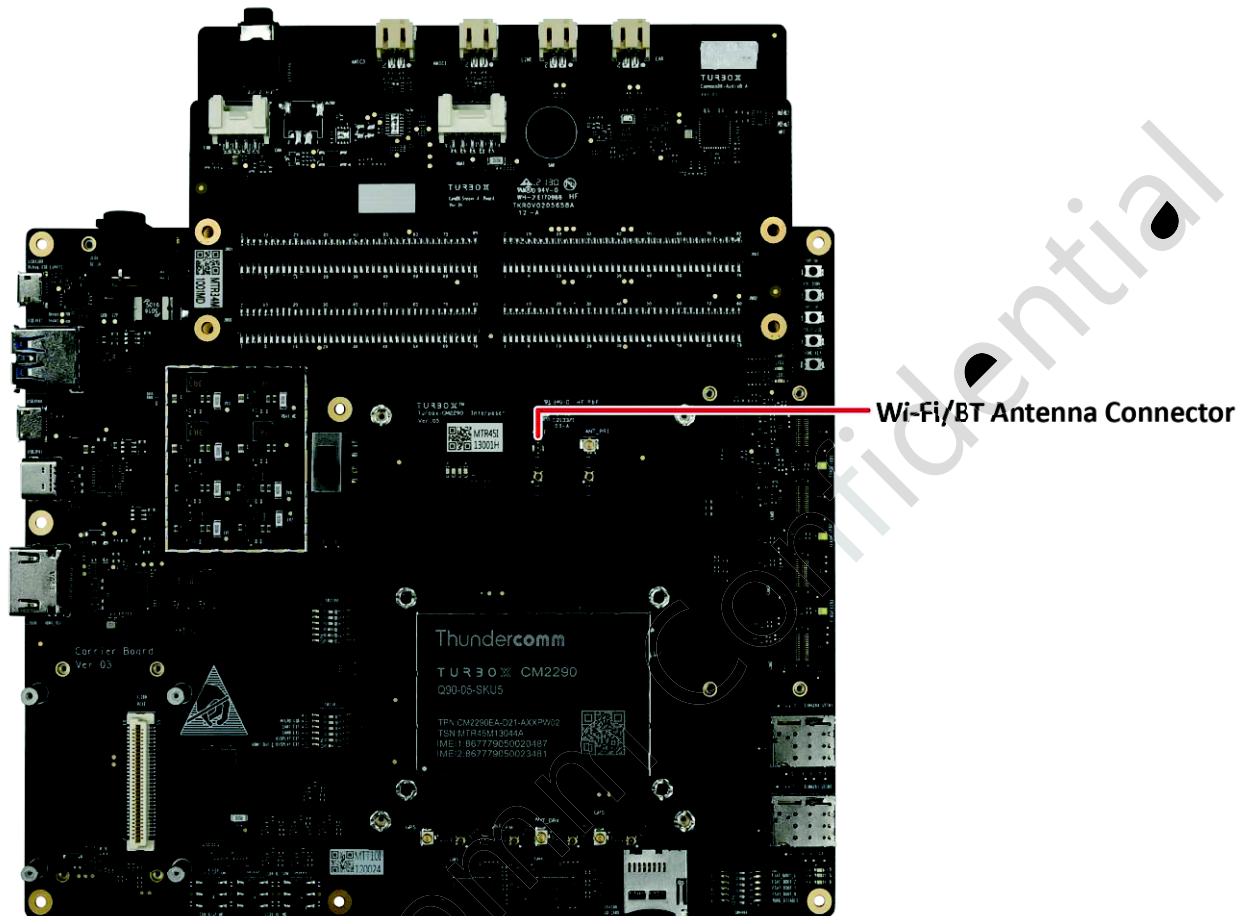

Figure 3-5. Connect Wi-Fi/BT Antenna
Step 1. Refer to Figure 3-5 to connect the Wi-Fi antenna to the board.